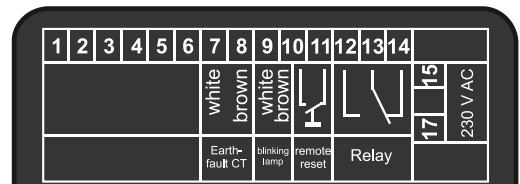

figure 1 - one-relay version (labelling in cover)
- Connector 15 - 17: Optional power supplies (please refer to figures 1, 2 and 3)